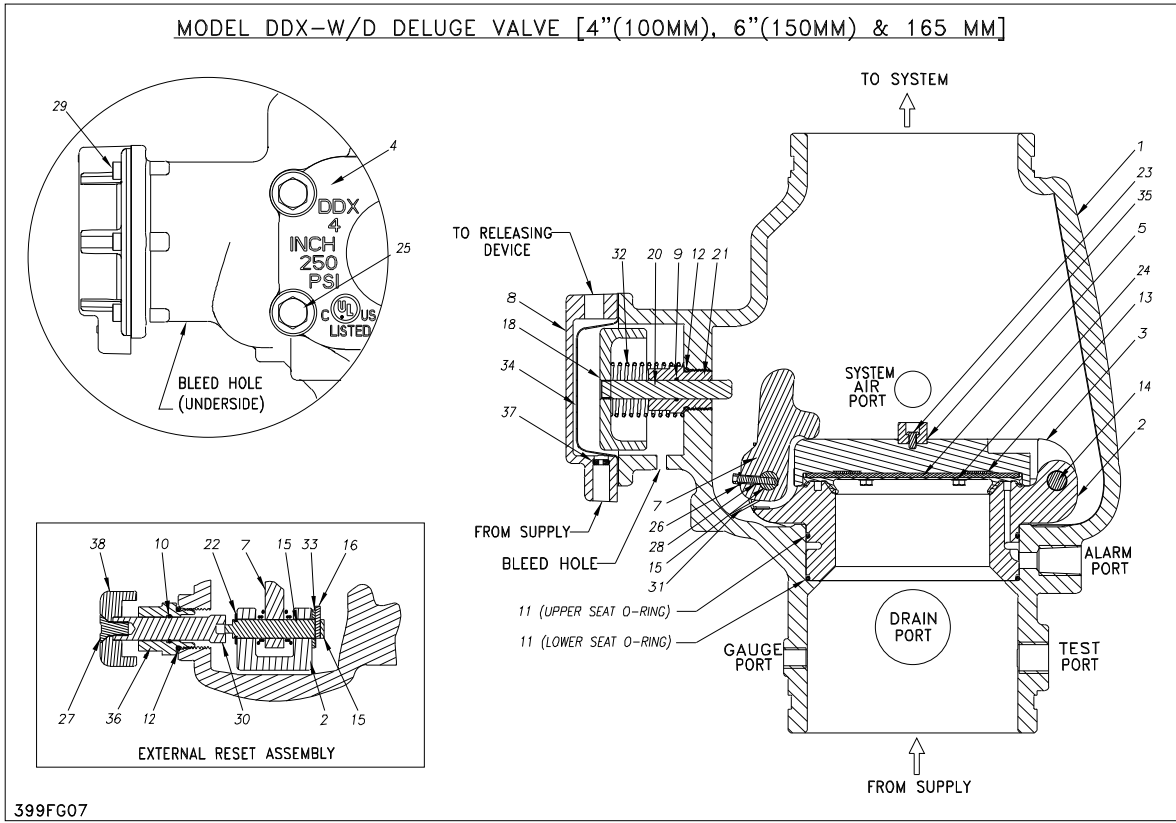

Fig. 7
9. With the Model B Hydraulic Manual Emergency Station, valve D (Fig. 8), open, rotate the Model DDX-W/D's reset knob (#38 Fig. 7) clockwise until you hear the distinct noise, indicating that the clapper has closed. **Note:** The reset knob can only rotate when the pushrod chamber is vented through the Model B Hydraulic Manual Emergency Station, valve D (Fig. 8)
5. **Ball drip valve G (Fig. 8)** – make sure valve F and valve L (Fig. 8) are open. Push on plunger to be sure the ball check is off its seat. If no water appears, the Wet/Dry Valves water seat is tight. Inspect the bleed hole (Fig. 7) on the underside of the pushrod chamber for leakage.